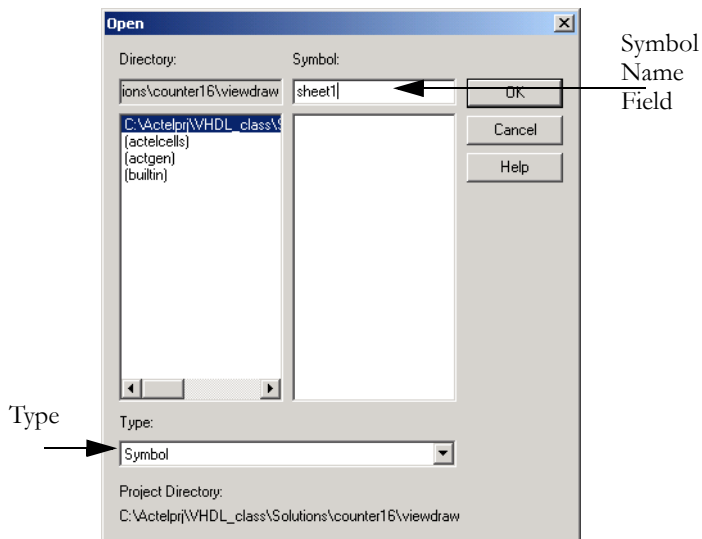

Figure 5-12. Open Dialog Box
2. Choose **Symbol** as the Type, as shown in Figure 5-12.